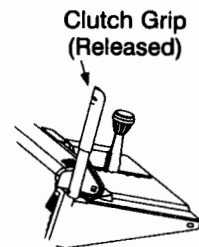

FIGURE 11
- Lift the clutch grip in the raised up position, see Figure 11.
- Make certain the auger and drive clutch levers are in the disengaged (released) position. See Figure 11.